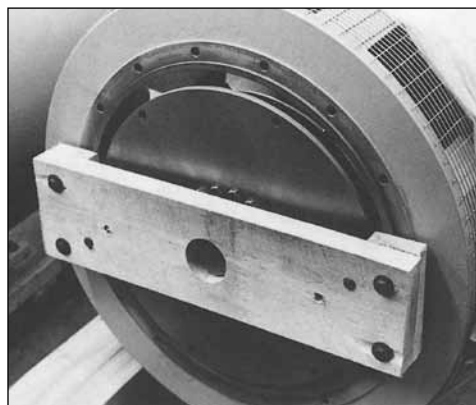

Figure 6-3
10. On single bearing generators, refer to Shipping Instructions (Section 11) for proper rotor support if planning to transport the generator. (Figure 6-3)